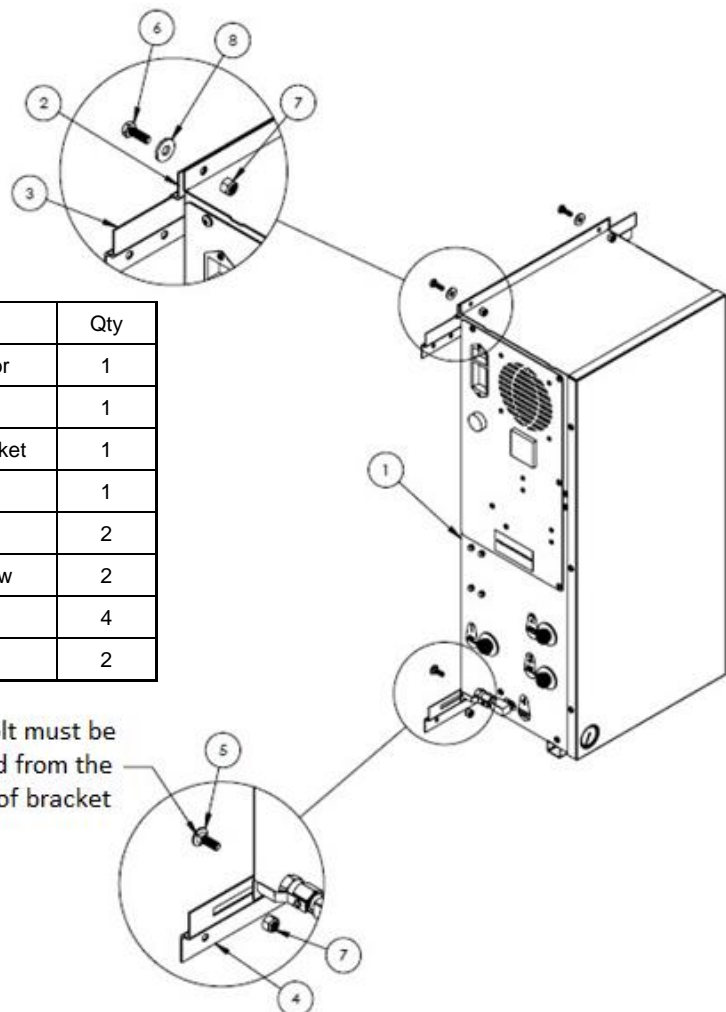

Figure 3: TL-450 Wall Mounting Diagram
2. All brackets must be installed in orientation as shown in **Figure 3** to work correctly.